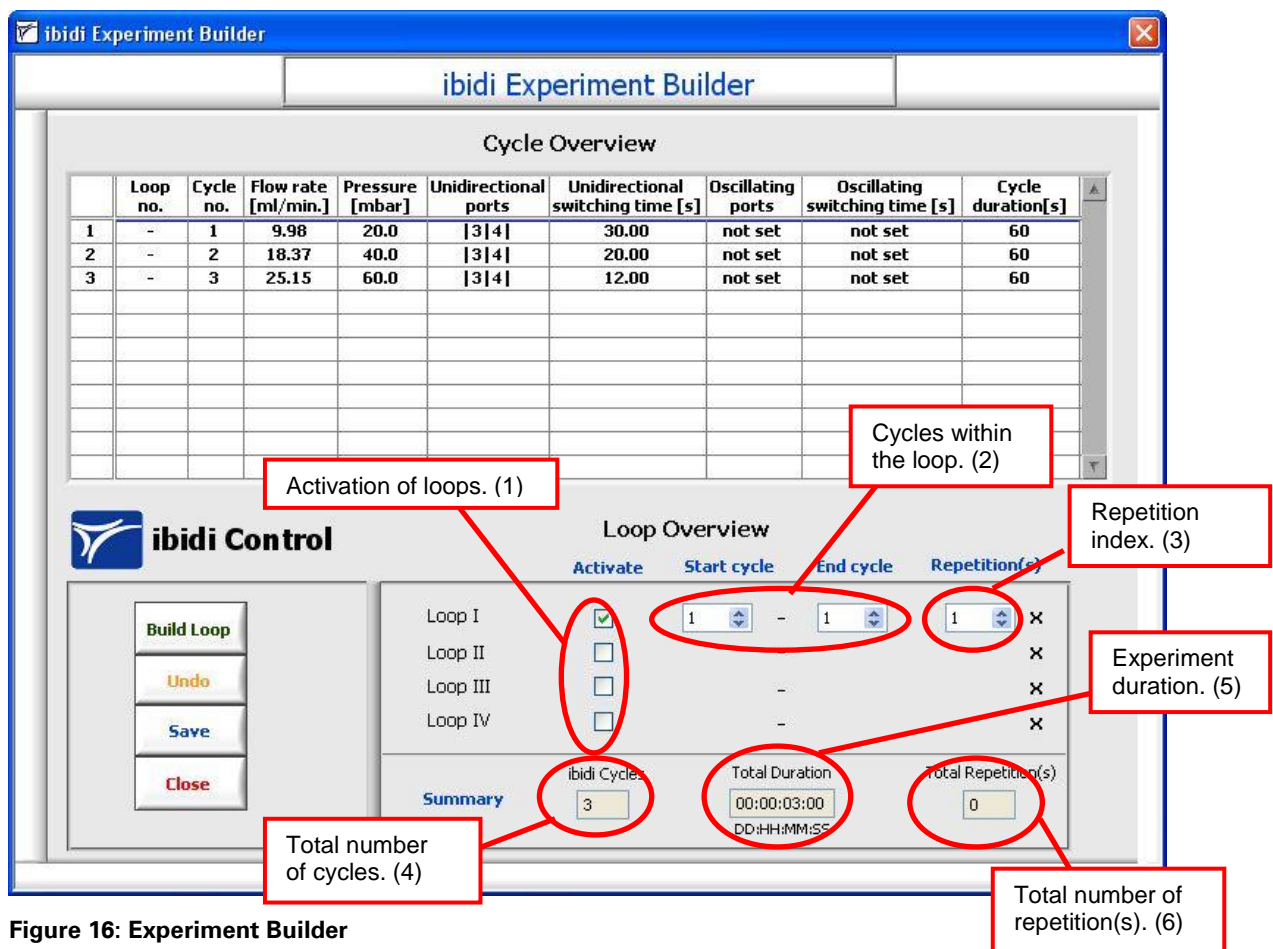

Figure 16: Experiment Builder
Before you start the ibidi 'Experiment Builder', you need to have created at least one complete cycle set. If you want to use more than one set, you should first arrange your list in the desired order. This is done because all cycles are initially executed once (e.g. if you have 3 cycle sets, as shown in Figure 16, you will always start your experiment by executing cycles 1 to 3, before starting the first loop).
Once you have arranged your cycle list, you can click on the 'Experiment Builder' button, as illustrated above. A new window will open and all the programmed cycles will appear in the 'Cycle Overview' table, as shown in Figure 16.
1. Activate up to four loops (Loop I → IV) (control 1, in Figure 16).
Additionally, you'll find the indicators 4 and 5, as shown in Figure 16. These show the total number of cycles of your experiment, and also the total duration. Indicator 6 displays the repetition(s) of the loops.